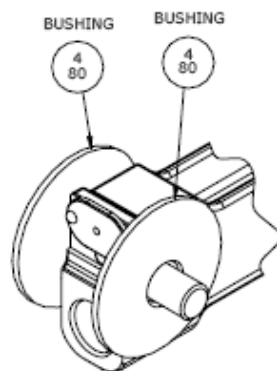

FIGURE 1
3.3.8 Install two bushings (4-80) onto piston assembly (4-50) - Refer to following drawing (Figure 1).
CAUTION: Check to determine that both bushings (4-80) are installed between the arms of yoke (1-20) and the piston assembly (4-50). Refer to Figure 1.